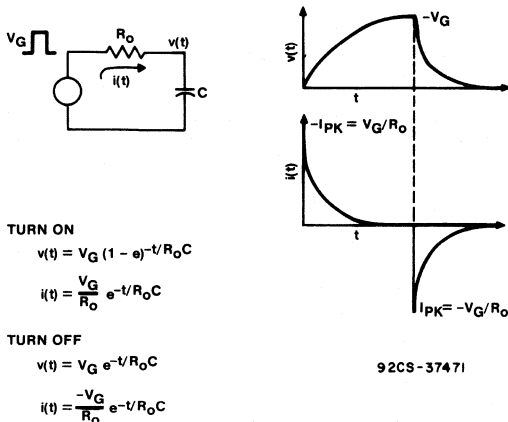

Fig. 5 - Step-voltage forcing function.
- (2) An instantaneous step current with infinite internal resistance, Fig. 5.
Power MOSFET devices are highly capacitive in nature; hence, simple capacitor responses to the forcing functions offer a good vehicle for comparison. The advantageous choice is immediately obvious: Fig. 5. Voltage/time responses dominated by capacitance are straight lines (when constant current is used). The slope of these lines is